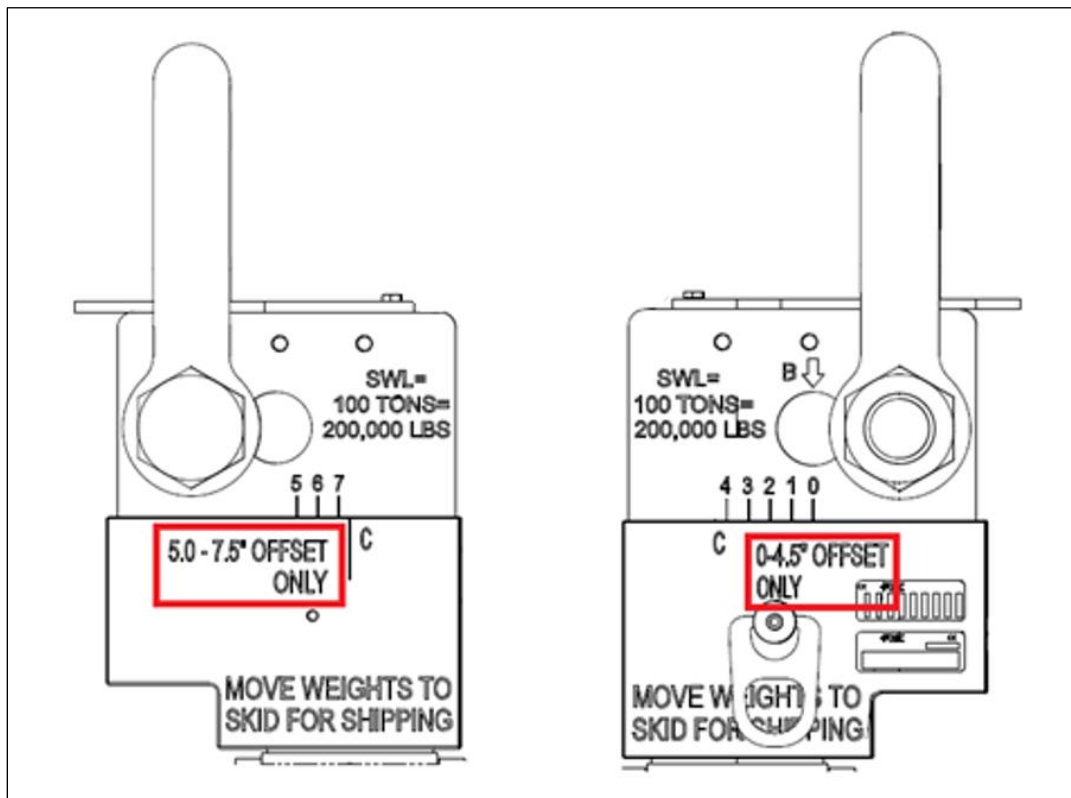

Figure 6: Offset Position
3. Slide the Upper Adapter (item 3) to the correct linear offset position. Reference the offset recorded in Section 5.1. Reference Figure 6 for offset positions.